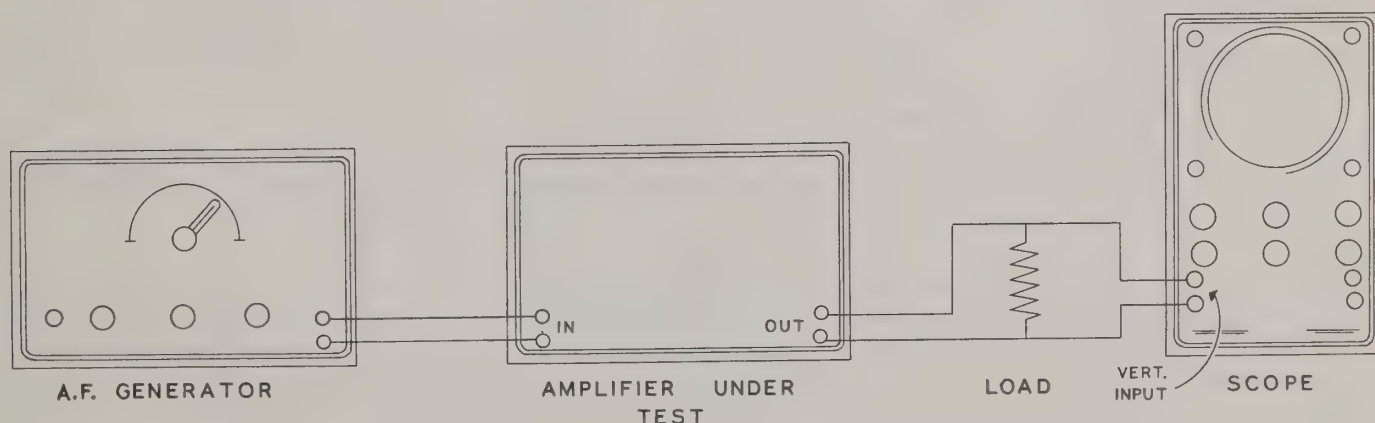

Figure 22
**Testing Audio Amplifiers and Circuits:** Figure 22 shows the conventional set-up of equipment for this application. The audio generator should be capable of producing a pure sine wave with a very low harmonic distortion. The load resistor should match the output impedance of the amplifier. The usual practice is to perform all tests at an input voltage sufficient only to develop a reference power output. This prevents overloading of any portion of the amplifier and consequent inaccuracies in measurements.